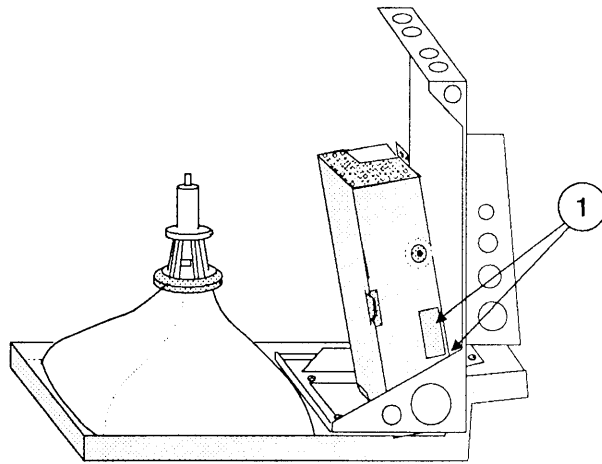

FIGURE 42
2. Place the drive into the chassis so that the tabs on the bottom of the metal drive housing fit into the holes provided in the chassis frame (Figure 42, #1).